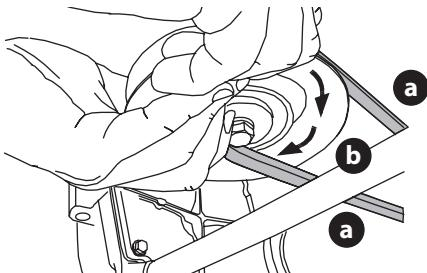

Figure 43
- d. While still holding the PTO belt (a) downward, continue turning the PTO pulley (b) until the PTO belt (a) is rolled off the PTO pulley (b) (Figure 43).
8. Pull the right side of the PTO belt rearward and place the narrow V-side of the PTO belt into the PTO pulley (Figure 43 on page 30).
9. While holding the PTO belt and PTO pulley together, rotate the PTO pulley to the left (Figure 43 on page 30). Continue holding and rotating the PTO pulley and PTO belt until the PTO belt is fully rolled into the PTO pulley.